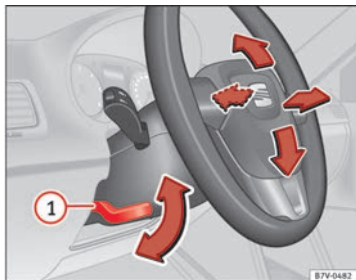

Fig. 128 Mechanical steering wheel adjustment
- Push the lever ⇒ Fig. 128 ① downwards.
- After adjusting the steering column, push the lever ⇒ Fig. 128 ① firmly upwards to ensure the steering wheel does not accidentally change position while driving.